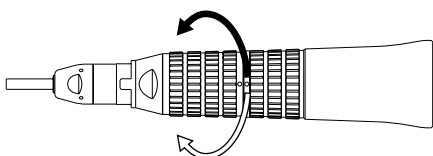

Fig.2
Insert a bur into the chuck. (Fig.2)
- (2) Return the Bur Lock Ring to the original position until a click sound is heard. (Fig.2)